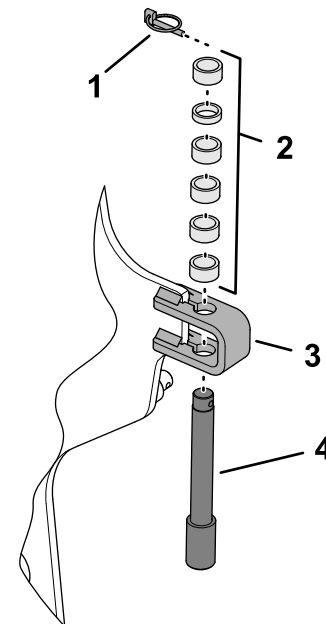

Figure 114
3. Remove the lynch pin that secures the depth-stop pin and spacers to the stop bracket (Figure 114).